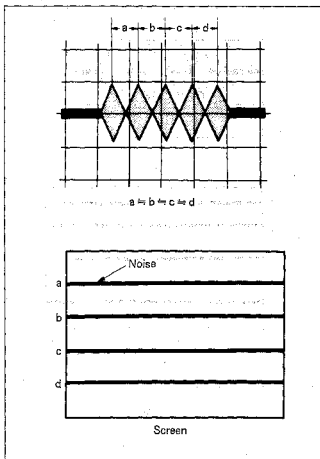

Fig. 7-83.
- 6) Set to the REV mode and confirm that the waveform noise pitches are uniform. If not, adjust as follows. (See Fig. 7-83.)